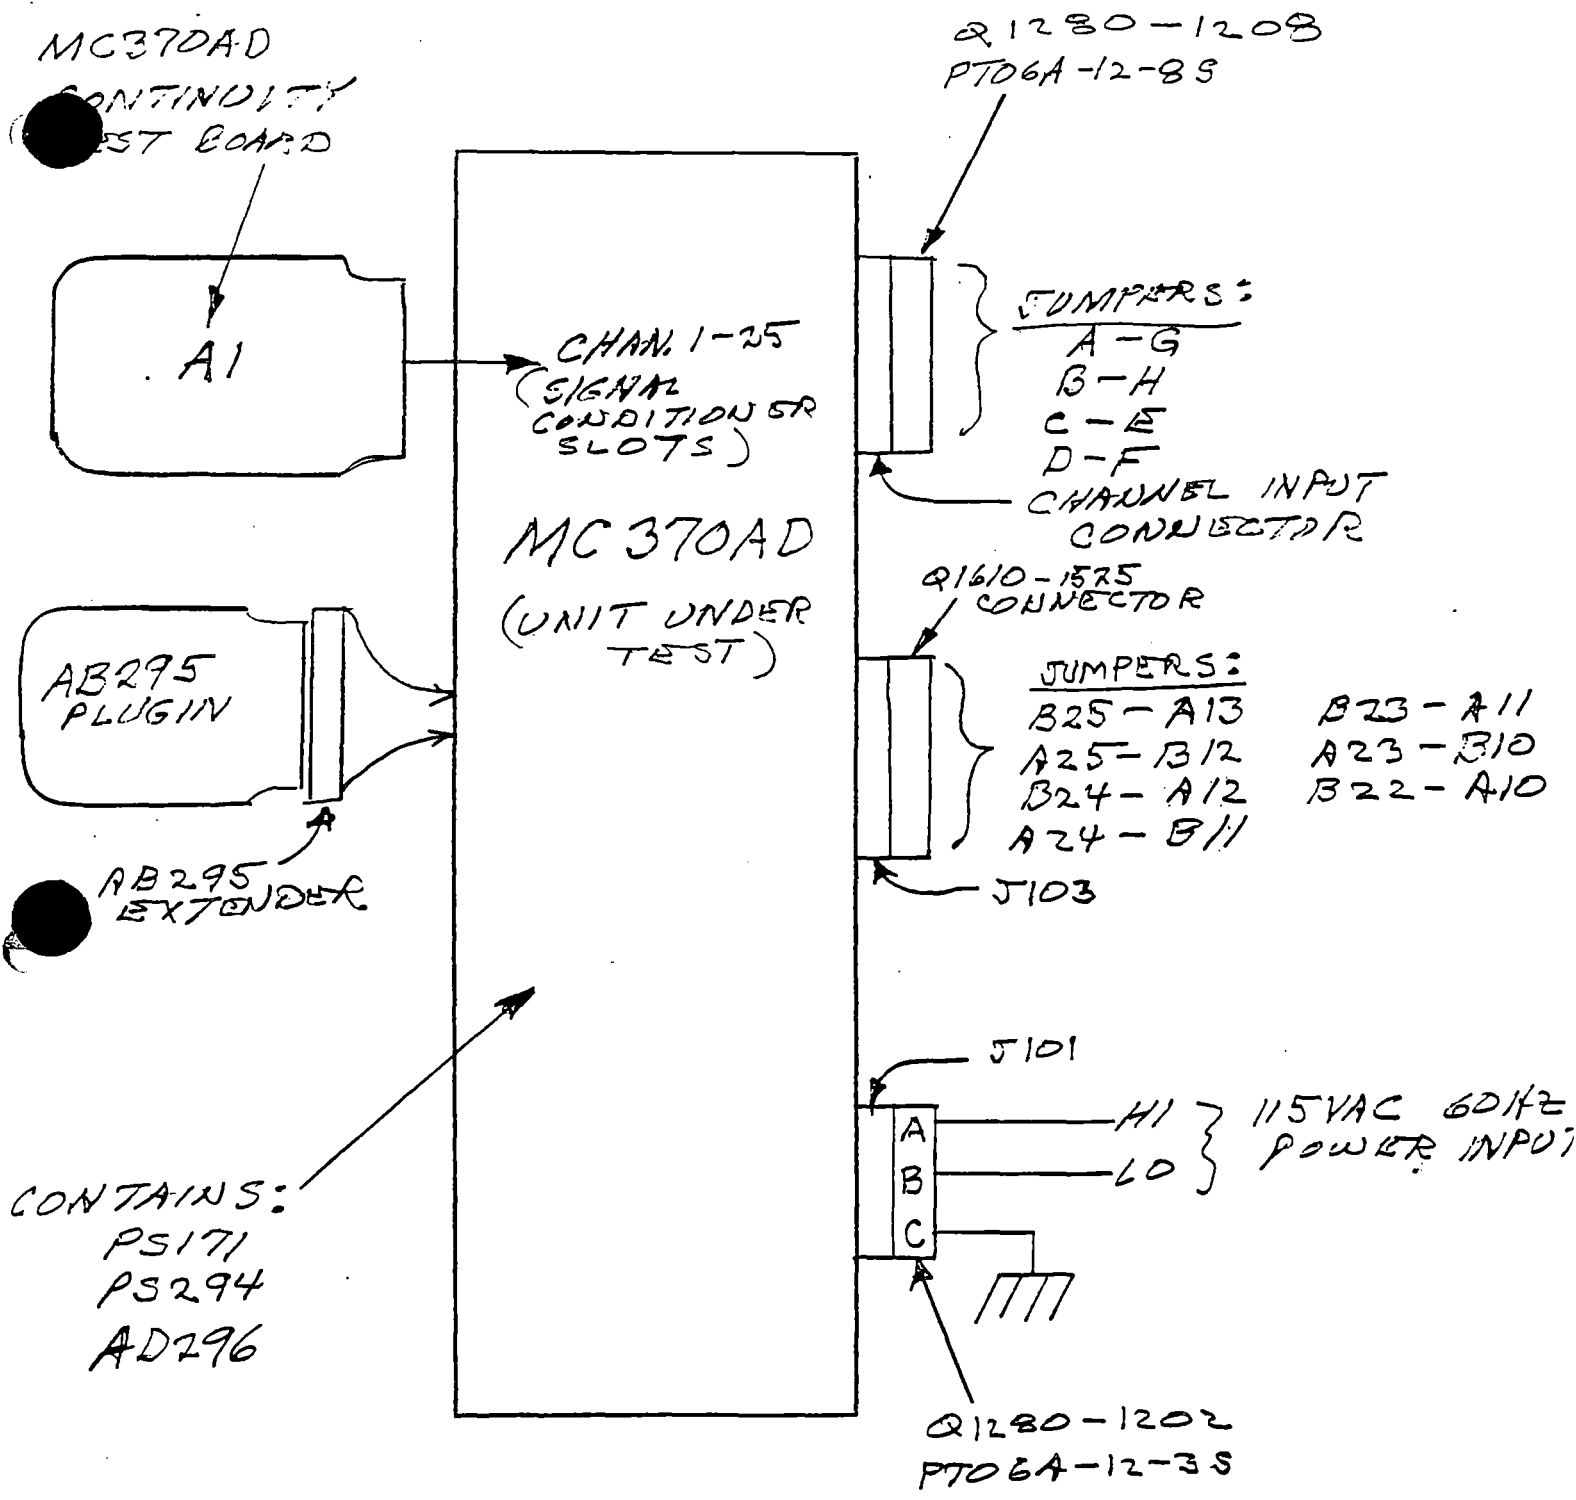

FIGURE 1 - TEST CONNECTIONS - MC370AD
4.4.1 Connect the equipment as shown in Figure 1. The (A1) "MC370AD Continuity Test Board" and mating jumper plug for the "Channel Input Connector" will be positioned at channel 1 and then moved through each of the 25 input channels during this test. The DP248 shall be connected between the "Continuity Test Board" (TP1) and the various test points of the AB295, (as listed in the data sheet.)
4.4.2 The J103 mating jumper plug shall be connected as shown in Fig. 1. These jumpers connect channel 1 analog output to channel 26, channel 2 to channel 27, etc., through channel 25 to channel 32.